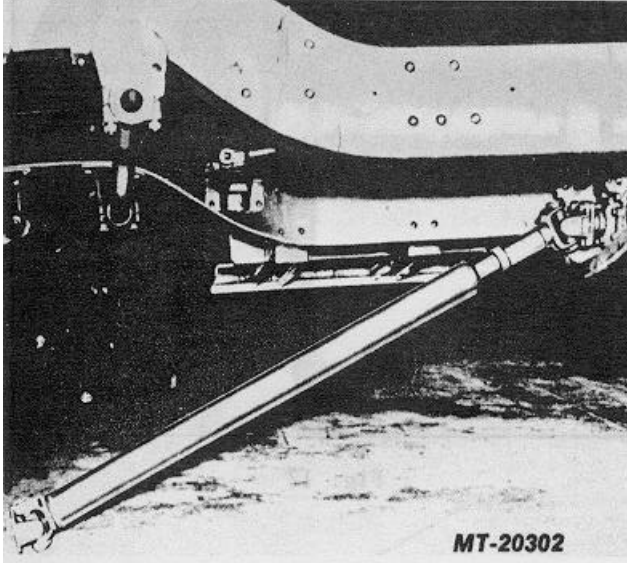

Fig. 13
1. Double Flange, Yoke Types (Bearing Cap and Snap Ring Construction)(Fig. 13)